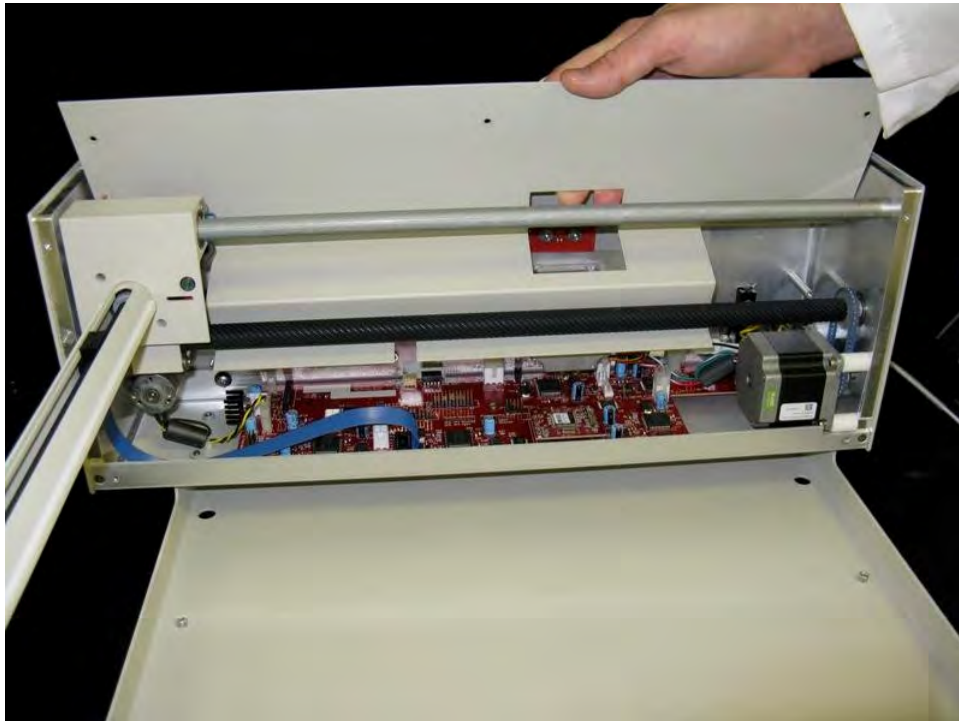

Figure 1-11. Removal of inner shield.
9. The inner shield can be removed by lifting it up while pulling forward. See Figure 1-11.